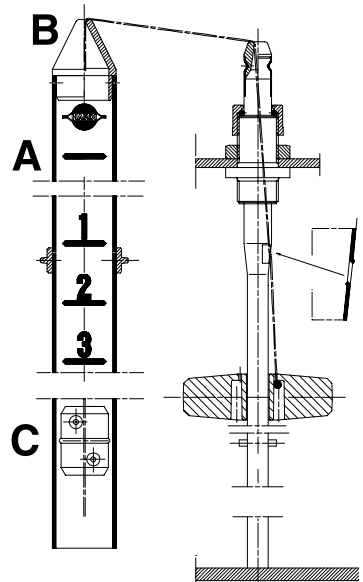

Fig. 28
The level indicator should be checked regularly. When the tank is empty, the floater should rest on the stop pin on the rod and the O-ring at the indicator should be positioned at the top position line (A) (Fig. 28).
If any deviation is found, pull out the plug (B) (Fig. 28), loosen the screws (C) (Fig. 28) and adjust the length of the cord.